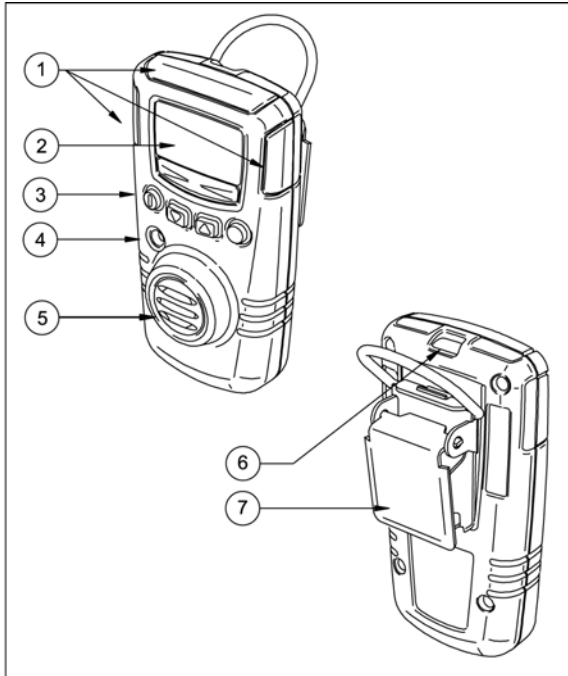

Figure 1. GasAlert Extreme Detector
- Figure 1 and Table 3 describe the detector's components.